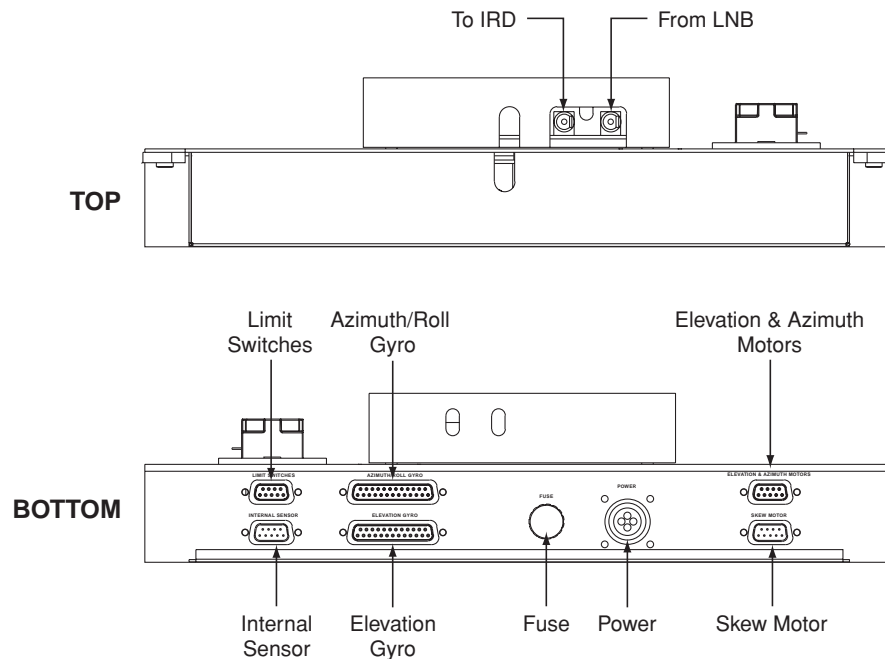

Figure 5-10
14. Reconnect the cables that you removed in Steps 4 and 5. Be sure to reconnect all cables in their proper positions. Figure 5-10 shows the proper connector assignments.